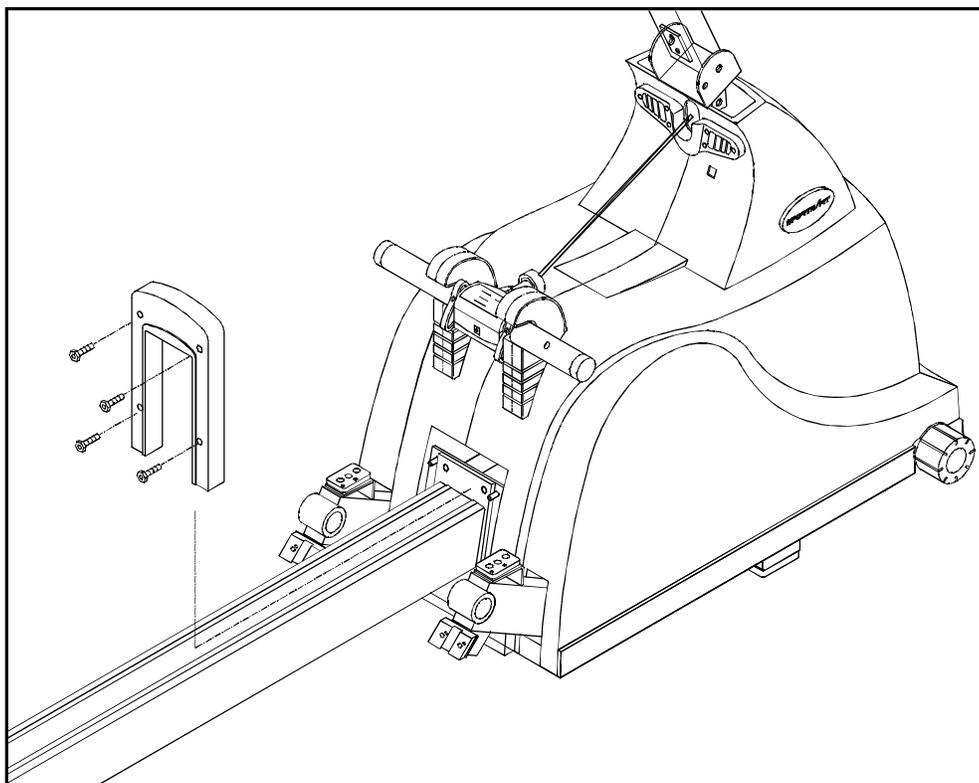

FIG.4
4. Place frame connection safety cover in position and secure with four screws (see Fig. 4).